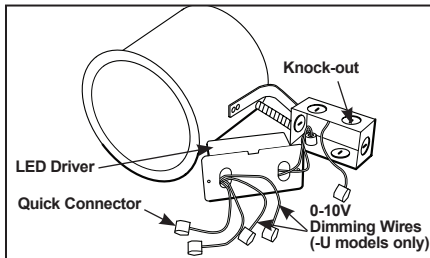

Figure 7
**Step 2.** Remove wiring box cover. Remove the appropriate knock-out(s) to accommodate the type of electrical service to be used/allowed by your local electrical code (Fig. 7):
**Step 3.** Strip supply wire 3/8" and insert each supply wire into appropriate connector. Connect black fixture wire to hot, white fixture wire to neutral and green fixture wire to ground. (Fig. 7).